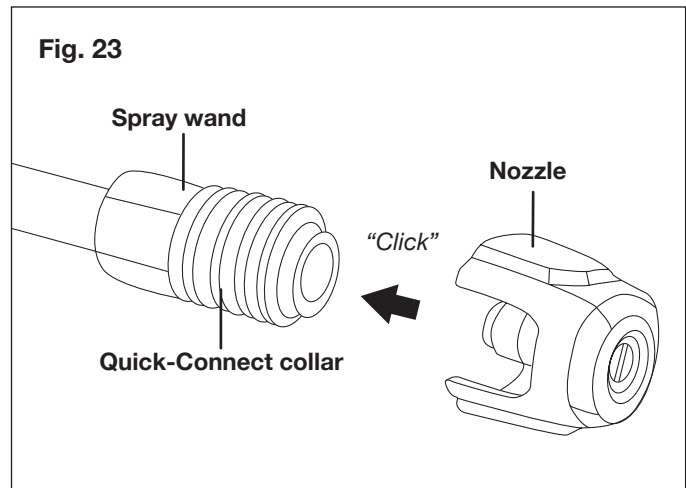

Fig. 23
3. Snap the desired nozzle onto the Quick-Connect collar until it *clicks* into place (Fig. 23).
5. Install the Soap nozzle (black) on the spray wand (Fig. 23).